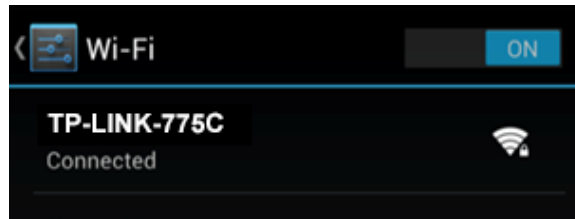

Figure 55: Connectivity Confirmation Screen
6. A verification message appears, showing that the Android device is connected to the router. (Figure 55)